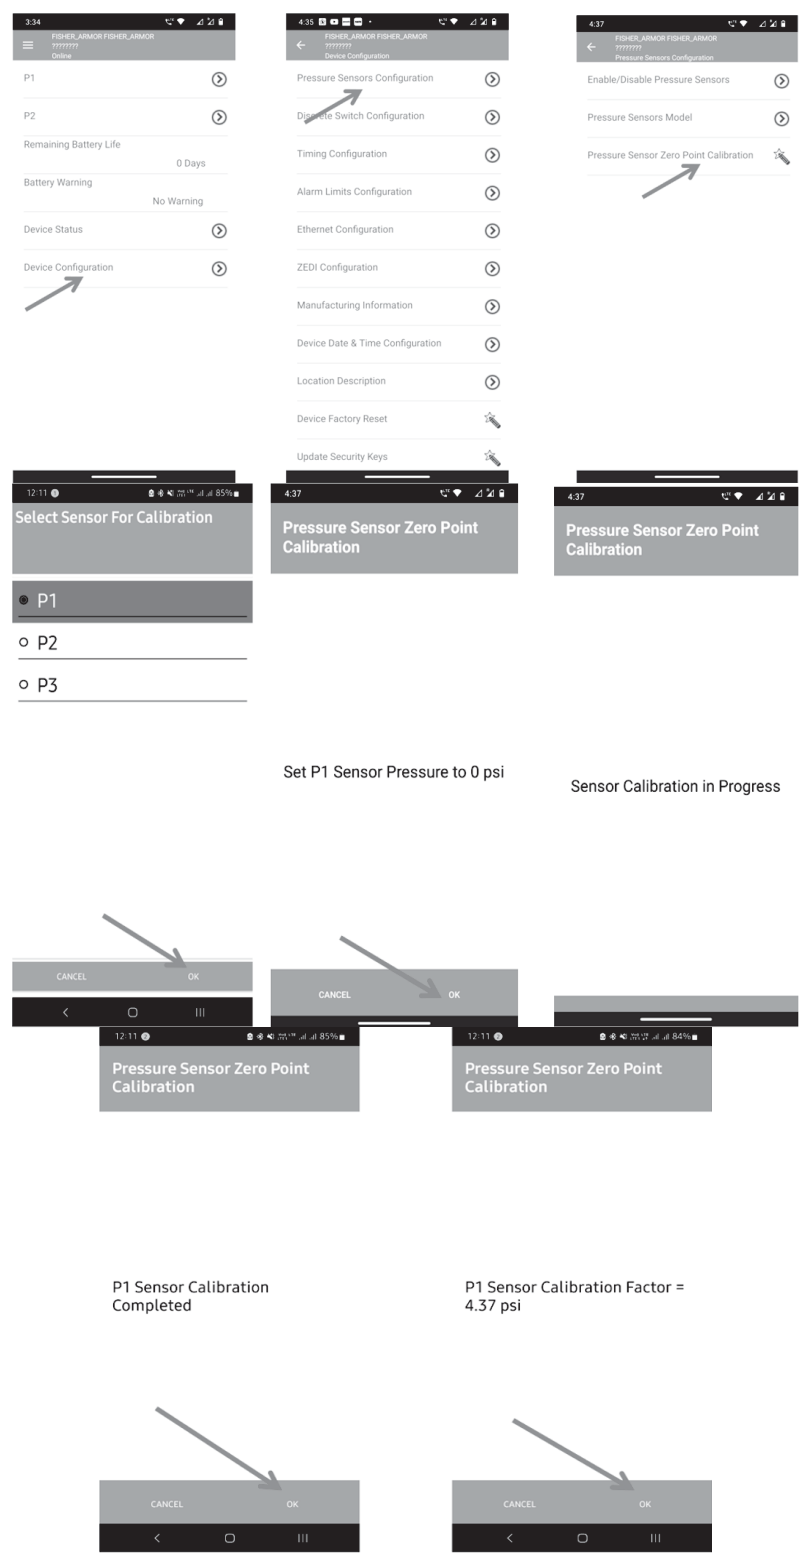

Figure 4. Pressure Sensor Zero-Offset Adjustment
5. Select the "Device Configuration" option as shown in Figure 4.
Pressure Sensor Zero-Offset Adjustment (Figure 4)